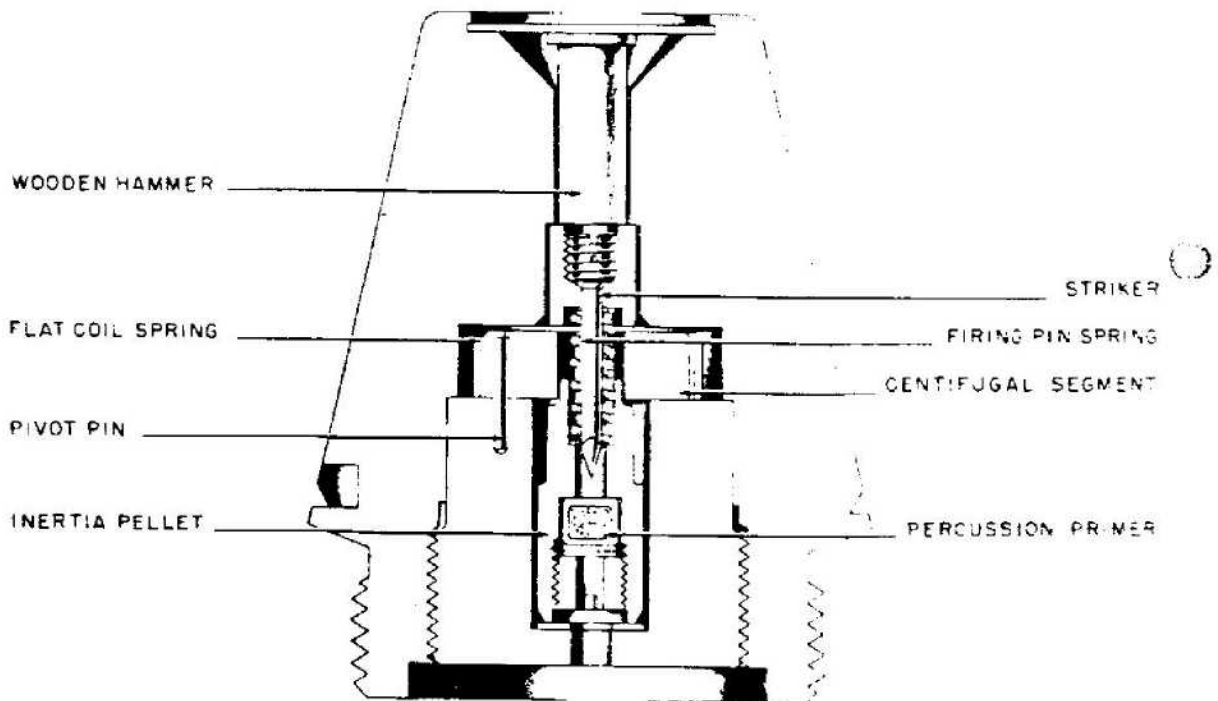

Figure 586—A. Z. f. Hbgr.
**EMPLOYMENT:** This fuze is used in the 15-cm Hbgr. 16 umg projectile. (See fig. 586.)